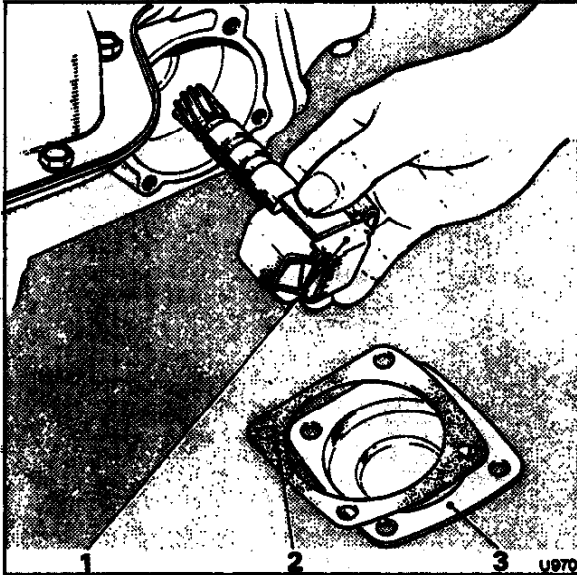

Fig. T40 Removing the governor assembly
3. Withdraw the governor assembly from the case (see Fig. T40).